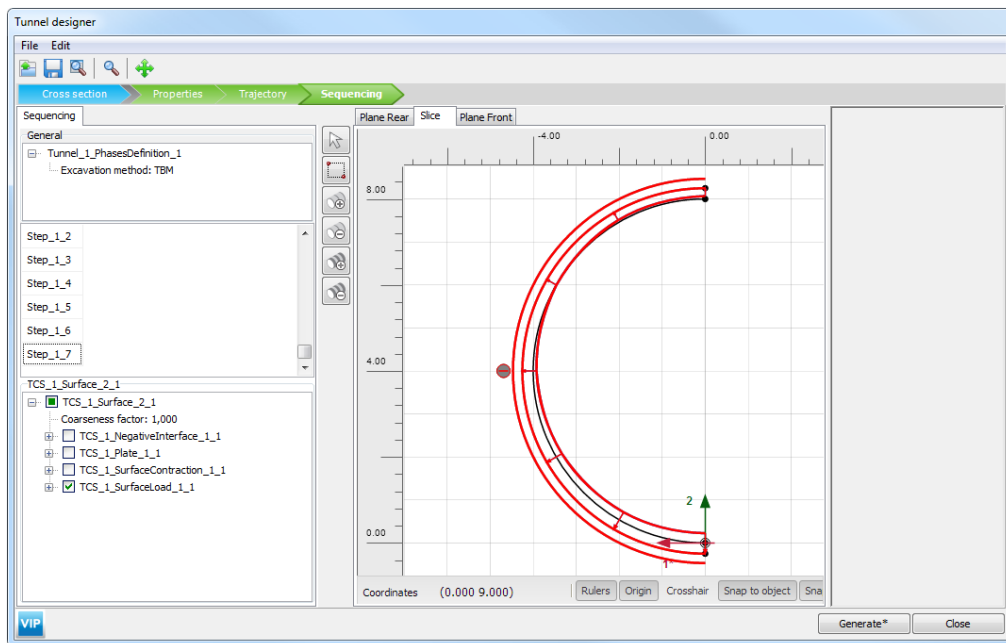

Figure 5.15 *Slice* tabsheet in the *Tunnel designer* Step_1_7
- Step_1_7, grouting and jack thrusting:** Select the *Slice* tabsheet and select the outer surface. Deactivate the negative interface, the plate and the surface contraction. In the *Selection explorer*, activate the surface load corresponding to the grout pressure (Figure 5.15).